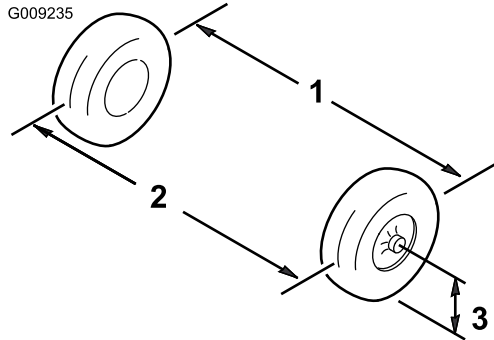

Figure 45
1. Measure the distance between both of the front tires at the axle height at both the front and rear of the front tires (Figure 45).